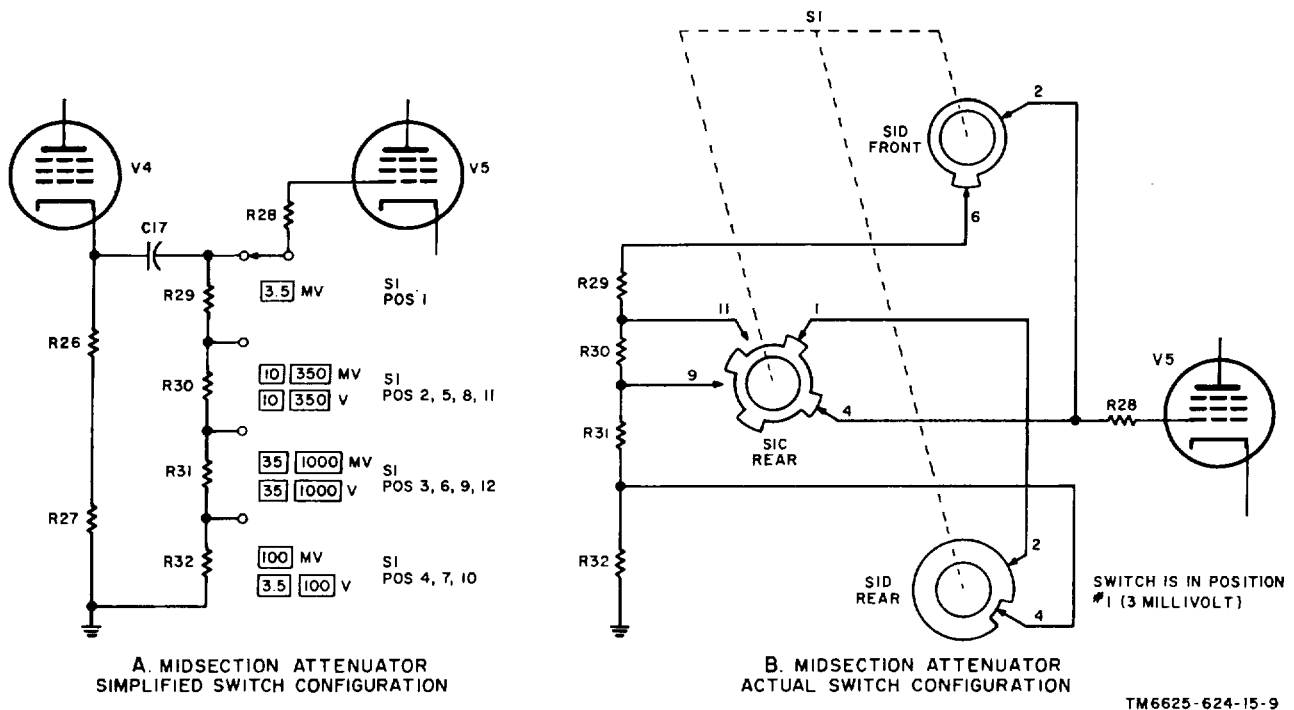

Figure 5-3. Midsection attenuator switching.
d. Midsection Attenuator (fig. 5-3). The midsection attenuator consists of a resistive voltage divider network which is controlled by the action of wafer switch assembly SIB (selector switch). The attenuator will apply an insertion loss ahead of the output amplifier
- (1) Cathode follower stage V4 couples the high source impedance of the plate of the input amplifier to the relatively low impedance of the midsection attenuator.
- (2) Variable capacitor C15 is connected into the cathode circuit of amplifier V3 when the signal to V4 is taken from the plate circuit of V3. This capacitor is used to equalize the high frequency response of the input amplifier. Capacitor C15 is not used when the signal to V4 is taken from the cathode of V3.
d. Midsection Attenuator (fig. 5-3).
- (1) Resistors R29, R30, R31, and R32 form a four-step string attenuator.
- (2) Over most of the frequency range, this attenuator acts as a resistive voltage divider. The circuit forms an L-pad type of network when the selector switch is stepped beyond its